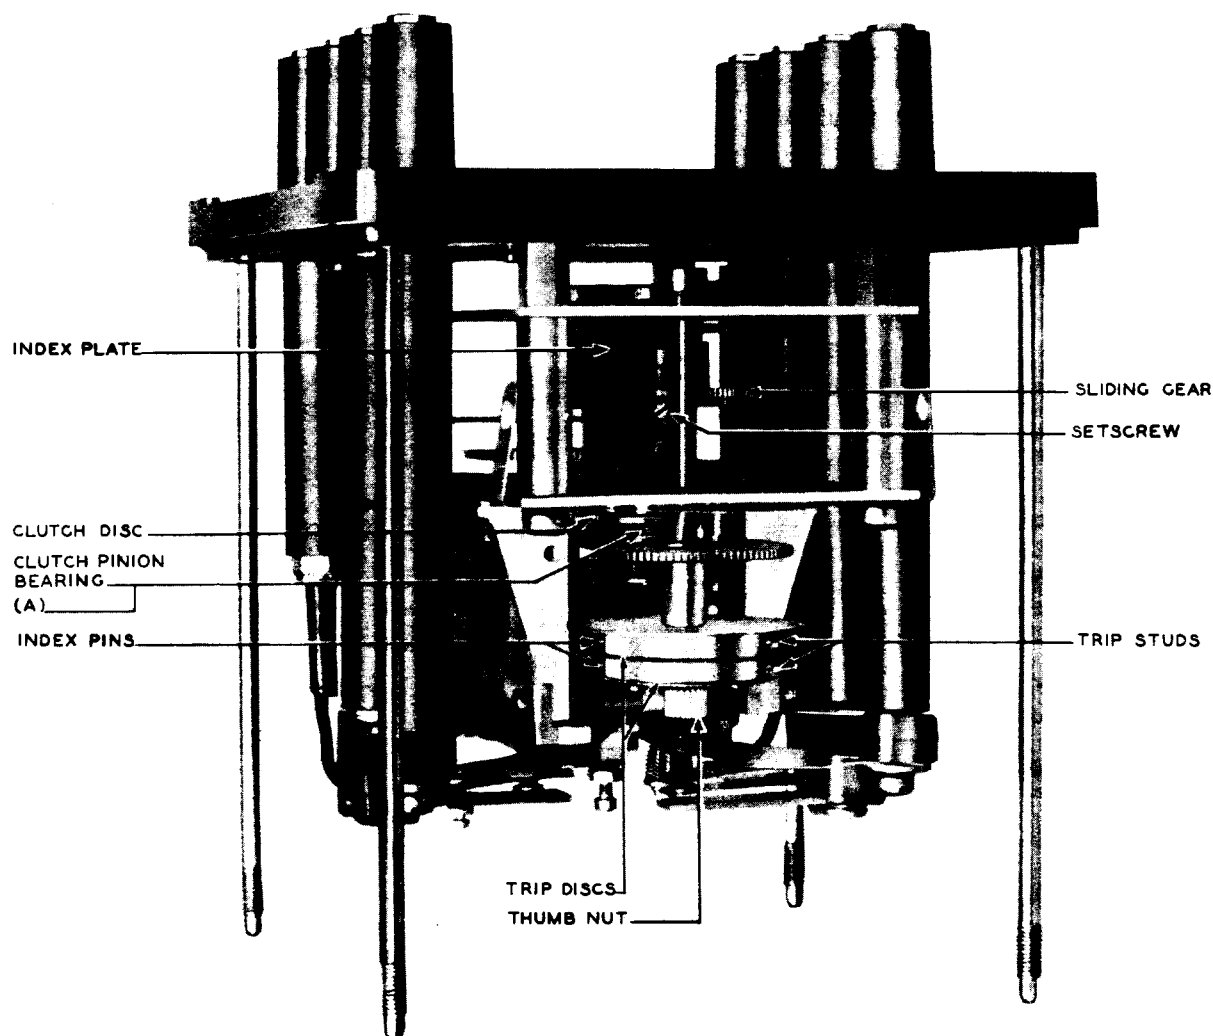

Fig. 2 – Clutch Pinion Bearing
- (a) Fig. 2(A)—The clutch pinion bearing shall be adequately lubricated with the Westinghouse Electric Corporation No. S-1723639 oil. When lubrication is necessary, one drop of oil shall be applied to the clutch shaft between the clutch discs.